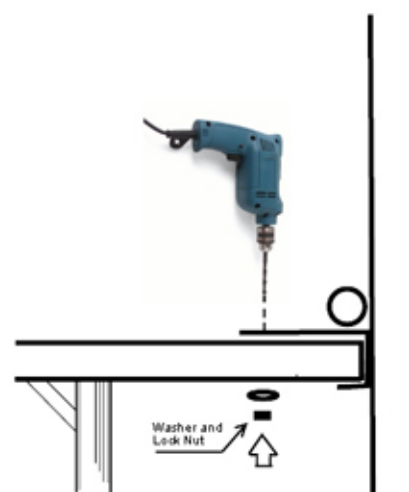

Figure 2a
Step 5: Using a drill with a 3/8 diameter drill bit, align the drill with the leftmost edge of the slots drill a hole through the riser platform (see figure 2a). **NOTE:** Make sure the slotted brackets are securely butted against the back frame of the platform and the uprights are aligned with the legs before drilling.